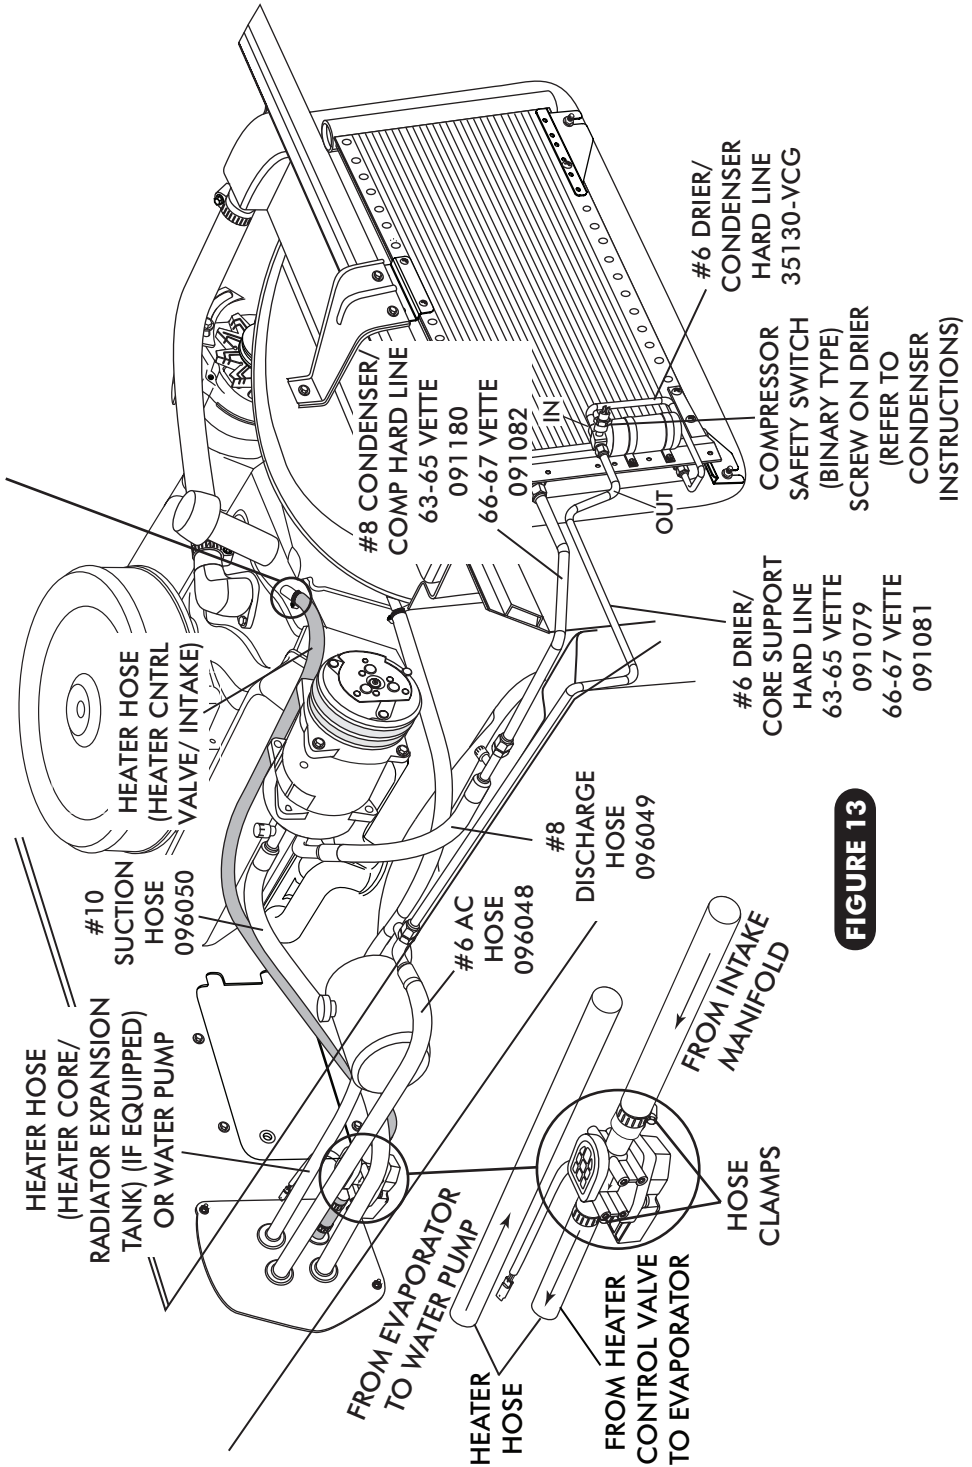

FIGURE 13
- LOCATE THE #8 COMPRESSOR A/C HOSE. LUBRICATE (2) #8 O-RINGS (SEE FIGURE 12, ABOVE) AND CONNECT THE 135° FEMALE FITTING TO THE #8 DISCHARGE PORT ON THE COMPRESSOR. ROUTE THE STRAIGHT FEMALE FITTING w/ 134a SERVICE PORT TO THE #8 CONDENSER HARDLINE COMING THROUGH CORE SUPPORT. SEE FIGURE 13 PAGE 14. TIGHTEN EACH FITTING CONNECTION AS SHOWN IN FIGURE 12 ABOVE.
- LOCATE THE #10 COMPRESSOR A/C HOSE. LUBRICATE (2) #10 O-RINGS (SEE FIGURE 12, ABOVE) AND CONNECT THE #10 STRAIGHT FEMALE FITTING w/134a SERVICE PORT TO THE #10 SUCTION PORT ON THE COMPRESSOR. ROUTE THE 90° FEMALE FITTING TO THE #10 EVAPORATOR. SEE FIGURE 10, PAGE 12 AND FIGURE 13, PAGE 14. TIGHTEN EACH FITTING CONNECTION AS SHOWN IN 12 ABOVE.
- LOCATE THE #6 EVAPORATOR A/C HOSE. LUBRICATE (2) #6 O-RINGS (SEE FIGURE 12, ABOVE) AND CONNECT THE 90° FEMALE FITTING TO THE DRIER HARDLINE. ROUTE THE 90° FEMALE FITTING TO THE #6 EVAPORATOR. SEE FIGURE 9, PAGE 12 AND FIGURE 13, PAGE 14. TIGHTEN EACH FITTING CONNECTION AS SHOWN IN FIGURE 12, ABOVE.
- ROUTE A PIECE OF HEATER HOSE FROM THE RADIATOR EXPANSION TANK (IF EQUIPPED) OR WATER PUMP TO THE TOP HEATER FITTING OF HEATER CORE AS SHOWN IN FIGURE 9, PAGE 12 AND FIGURE 13 BELOW. SECURE USING HOSE CLAMPS. **NOTE: OEM RADIATOR EXPANSION TANK OUTLET IS 3/4". (OPTION 1) USE GATES HEATER HOSE PART # 18084 3/4" x 5/8" x 60" (REFER TO PAGE 12) FOR HEATER HOSE MODIFICATION. (OPTION 2) 3/4 x 5/8 REDUCER FITTING IS REQUIRED (NOT SUPPLIED)**
- ROUTE A PIECE OF HEATER HOSE FROM THE INTAKE TO THE BOTTOM HEATER FITTING OF HEATER CORE AS SHOWN IN FIGURE 9, PAGE 12 AND FIGURE 13, BELOW. INSTALL HEATER CONTROL VALVE IN-LINE WITH INTAKE MANIFOLD (PRESSURE SIDE) HEATER HOSE, SECURE USING HOSE CLAMPS AS SHOWN IN FIGURE 13, BELOW. **NOTE PROPER FLOW DIRECTION.**